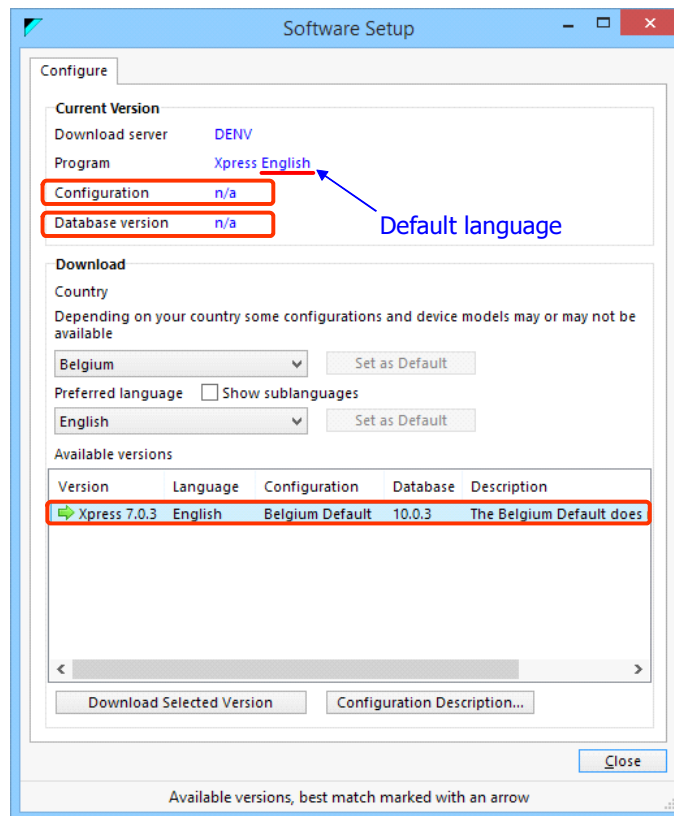
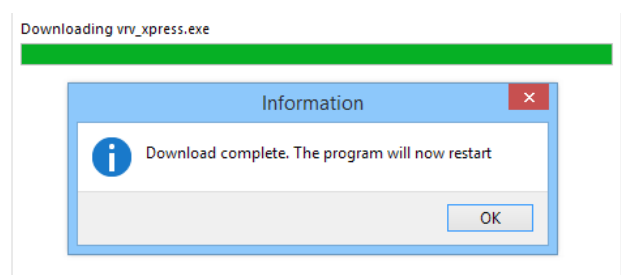

Figure 11: Looking up the available versions
Figure 14: Version download is completed
Using this information, the central server looks up the available versions and sends it to VRV\_Xpress, which brings up a window as shown in Figure 11:
After having accepted these conditions VRV\_Xpress starts the download. The bottom of the software setup window of Figure 11 changes into a progress bar. On a normal Internet connection, this downloading process takes less than one minute. At the end of the download, VRV\_Xpress displays a window to restart it, as shown in Figure 14:
- Click the "**Upgrade Now!**" command button, to bring up the same software setup window of Figure 11, allowing to download the new version in the same way as the very first version (see section 2.2).
Answering "Yes" to these questions starts a communication with the central server to look for a new version. As a result, VRV\_Xpress brings up the version overview window as shown in Figure 11 (see section 2.2), from which you can download the required version.